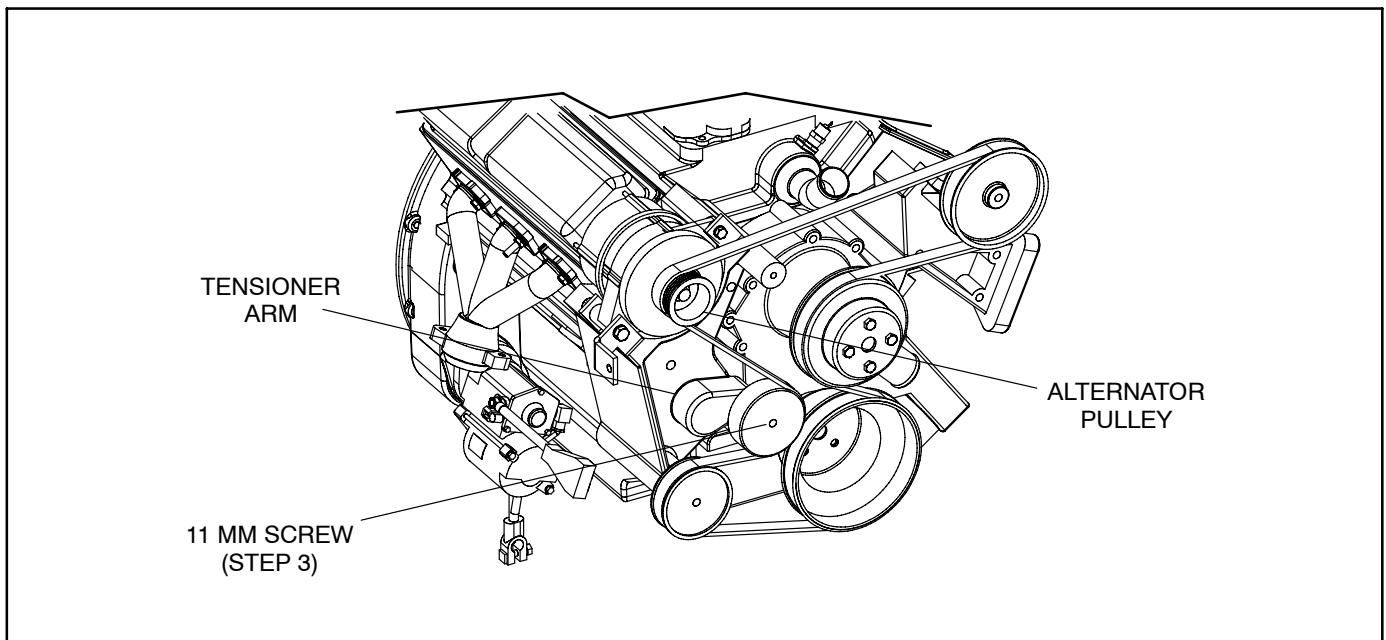

FIGURE 5-7. SERPENTINE BELT REPLACEMENT
3. Place a 15 mm socket onto the tensioner arm (Figure 5-7). With handle of ratchet extended horizontally to the right of the tensioner arm, slowly lift up on the ratchet handle until the spring tension is relieved. Remove serpentine belt.